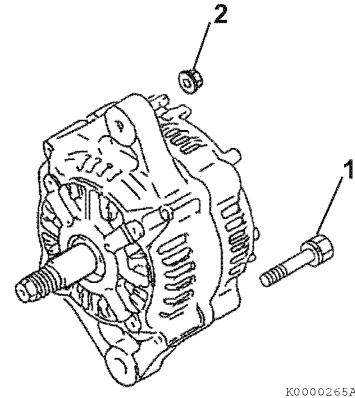

Figure 11-15
- Align the front frame housing with the rear frame housing. Reinstall the two bolts (Figure 11-15, (1)) and two nuts (Figure 11-15, (2)).